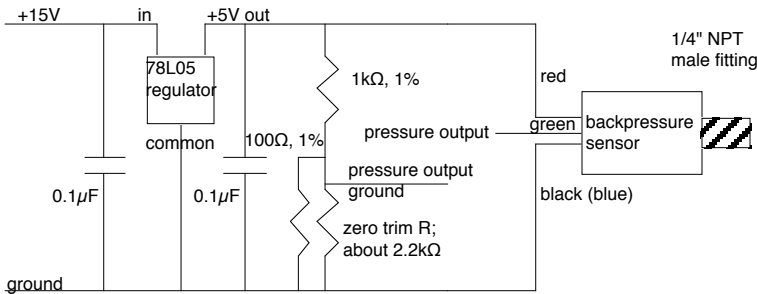

Fig. 11 Pressure sensor wiring; on Electrograsp Interface Board
**SERIAL PORT**The Serial Port 17 (Fig. 11) uses 9600 Baud, no parity, 8 bit, one stop and one start bit.